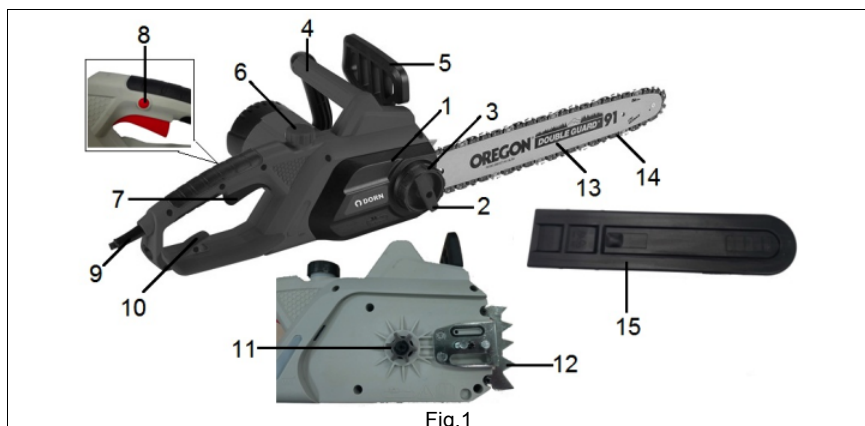

Fig.1
Warning: the on/off switch (7) (fig.1) ever be depressed before pulling back the front hand guard.
5. To start the chainsaw, first press the lock-off button (8) and hold it in position, then squeeze